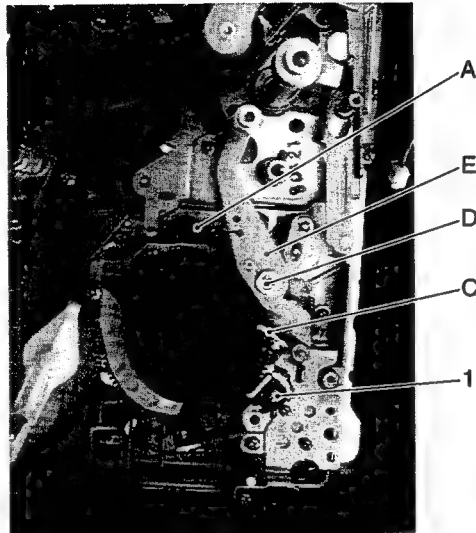

Fig. 2-7-25
1. Remove spring A (see Fig. 2-7-25).
2. Attach E-ring D (see Fig. 2-7-25).
4. Attach spring A (see Fig. 2-7-25).